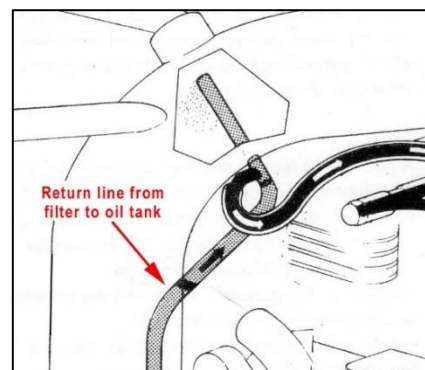

FIG. 2
- 3- Next remove the return line from the oil tank. See FIG. 2. Save the hose clamps to use on the new hoses.